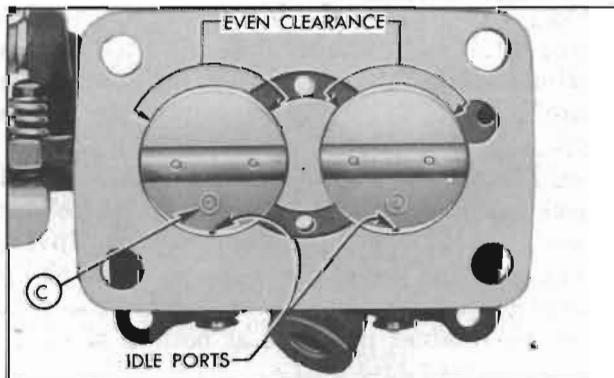

Figure 3-35—Installation of Throttle Valves
4. Install both throttle valves on shaft, using *new screws*. The small "c" in circle on valves must be toward idle ports and toward lower or manifold side of body flange. See figure 3-35. Back off throttle lever adjustment screw, fully close and center both valves in barrels of body flange, then hold valves firmly while tightening screws.
5. Hold body flange toward a light while slightly opening and closing valves to make certain they are centered in barrels. See figure 3-35. Support valve screw heads on suitable steel block and lightly stake opposite ends of screws.